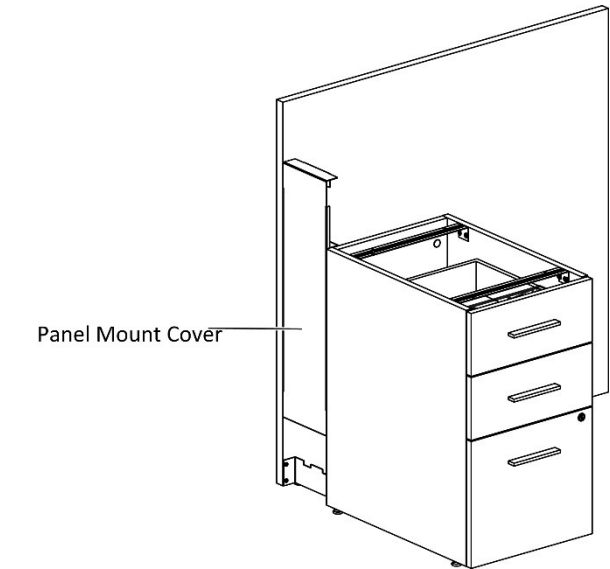

Figure 3
8. Place the panel mount cover between gallery panel and pedestal, (Figure 3).